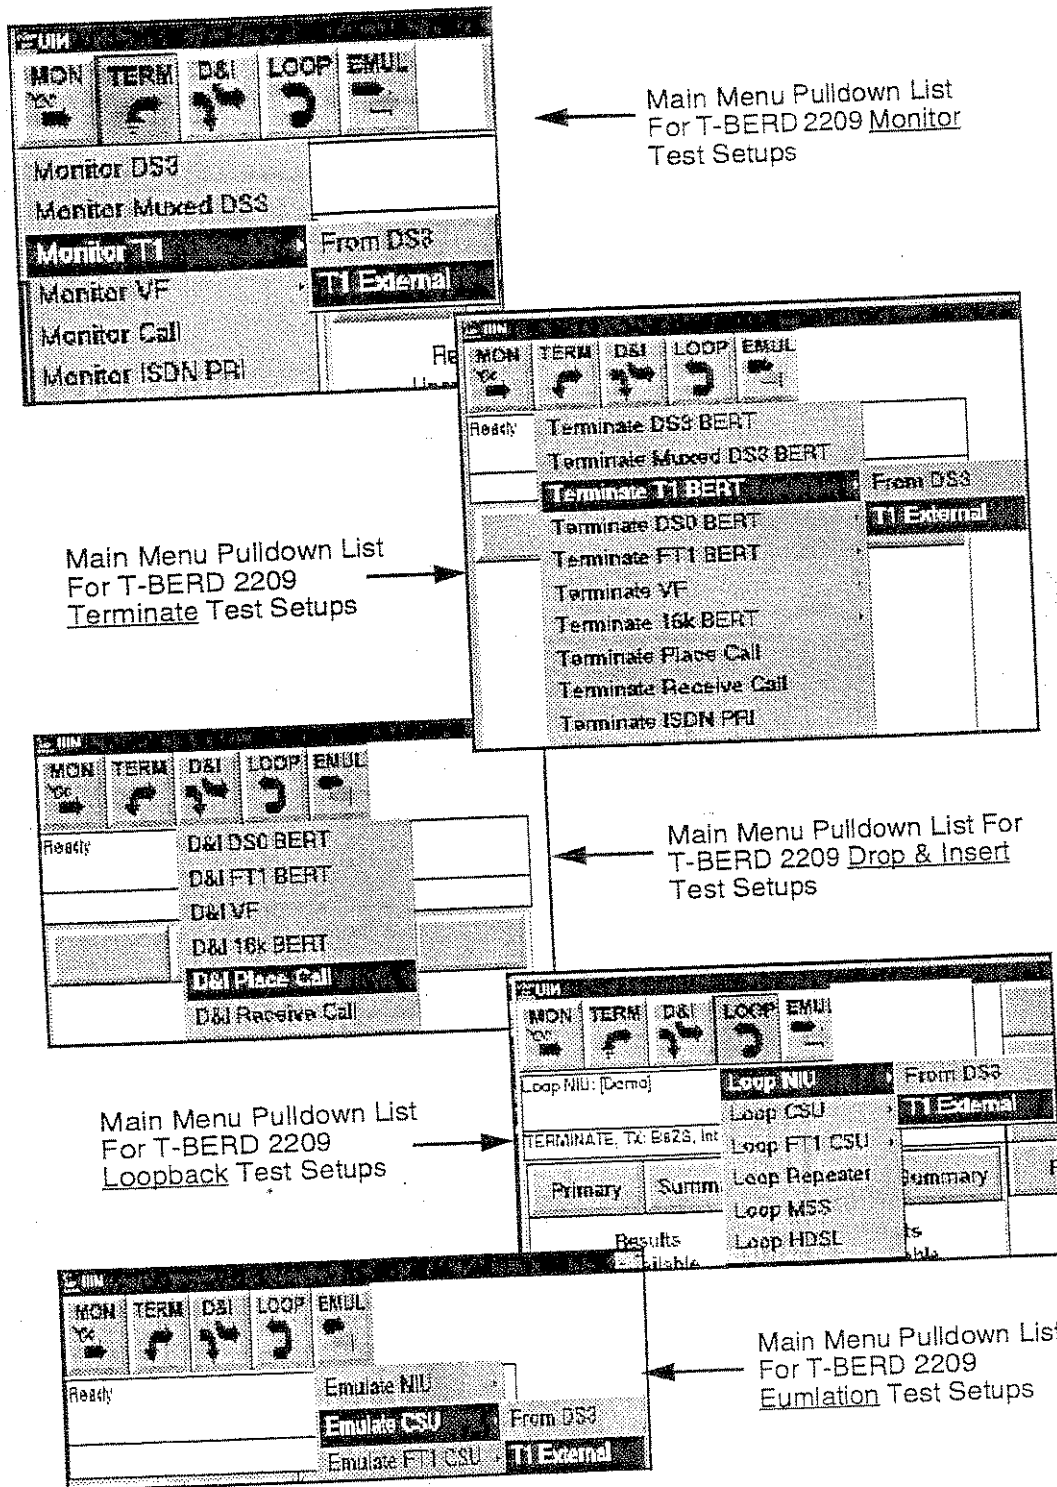

Figure 2-2. Application Icons with Pull-down Lists
1. **Application Icon Selection** — This area displays **MON** (Monitor), **TERM** (Terminate), **D&I** (Drop and Insert), **LOOP** (Loop-back), and **EMUL** (Emulate) icons used to select a test group and specific test applications within that group. Refer to Figure 2-2 to view selections (represented by their respective pull-down menus) of those application icons for test setups.